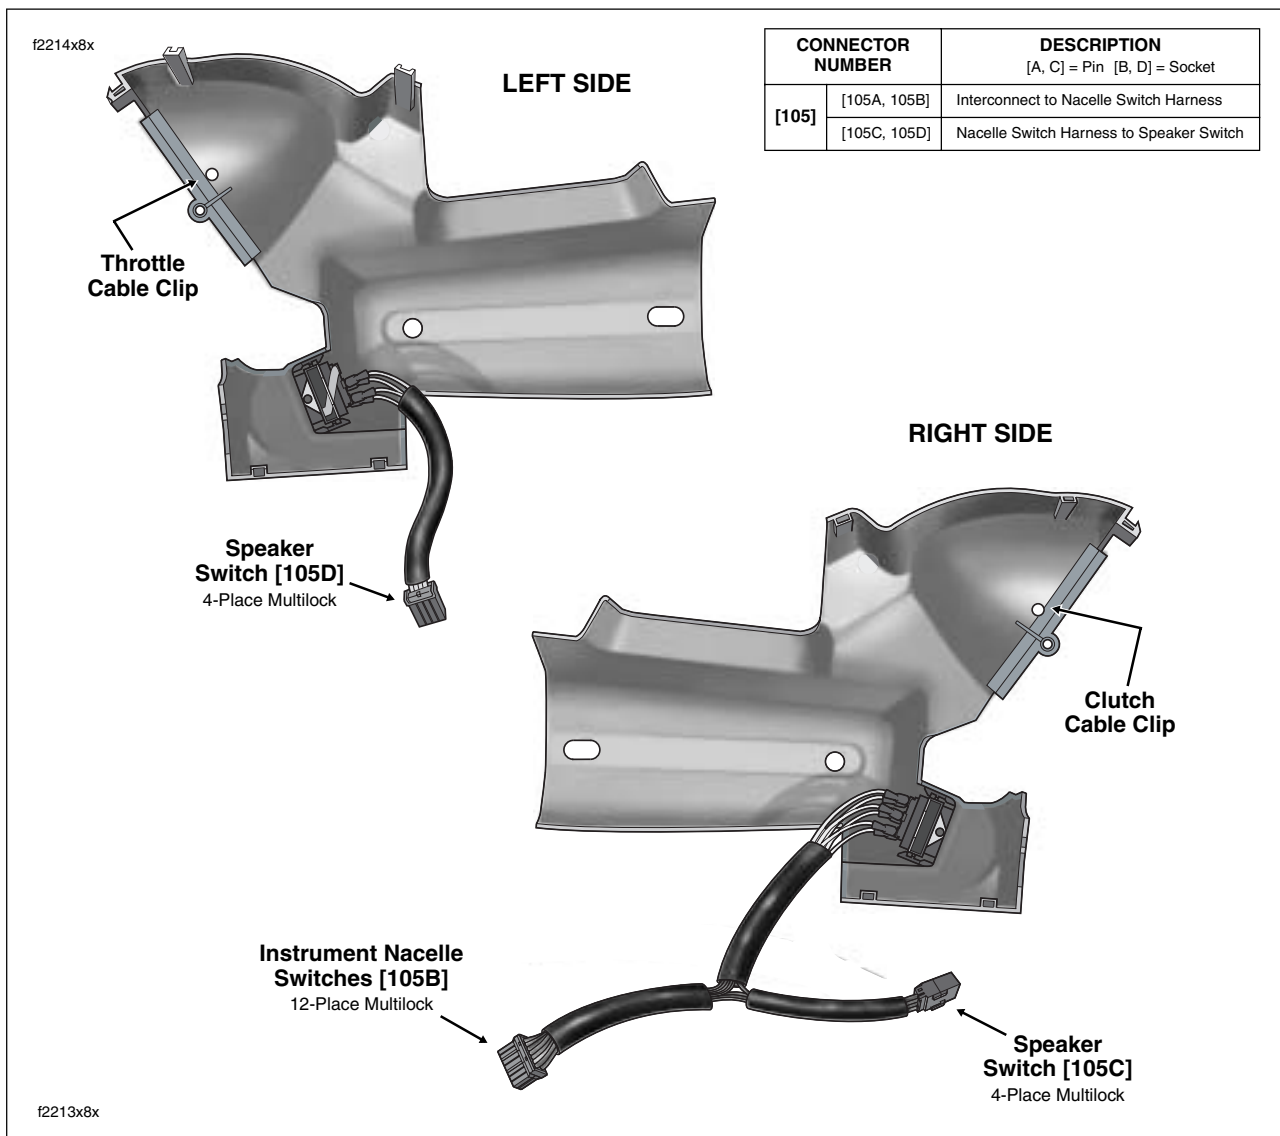

Figure 2-167. Instrument Nacelle Halves
6. Unthread rubber boot from odometer reset switch, and while carefully removing left side instrument nacelle from motorcycle, pull odometer reset switch from hole. See Figure 2-167.